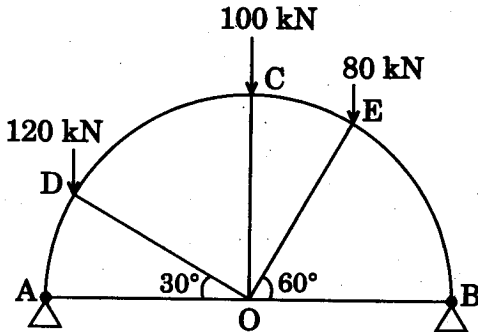

Figure 6
6. A two-hinged semicircular arch of radius 20 m carries a load system shown in Figure 6. Determine the horizontal thrust at each support. Assume uniform flexural rigidity. 10